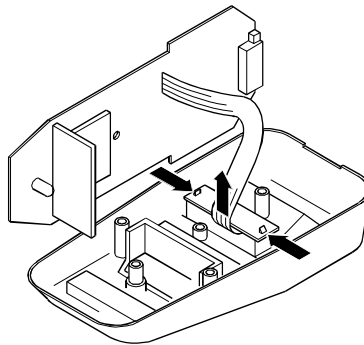

Figure 15: Charger PCB removal (2)
5. (Figure 15) Disconnect and remove the charger PCB.